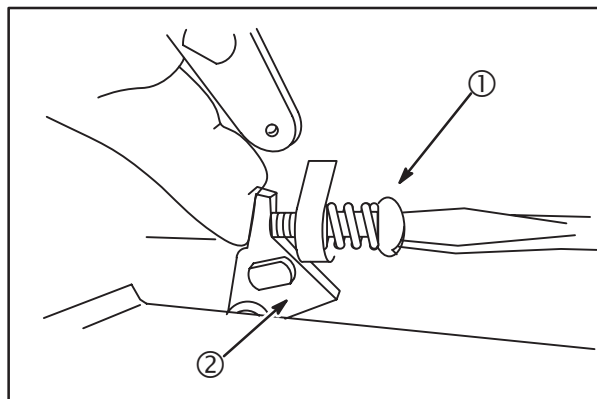

Fig. 10
3. Hold throttle lever (2) against idle speed screw (1), **Fig. 10**. Temporarily adjust idle to RPM shown below.